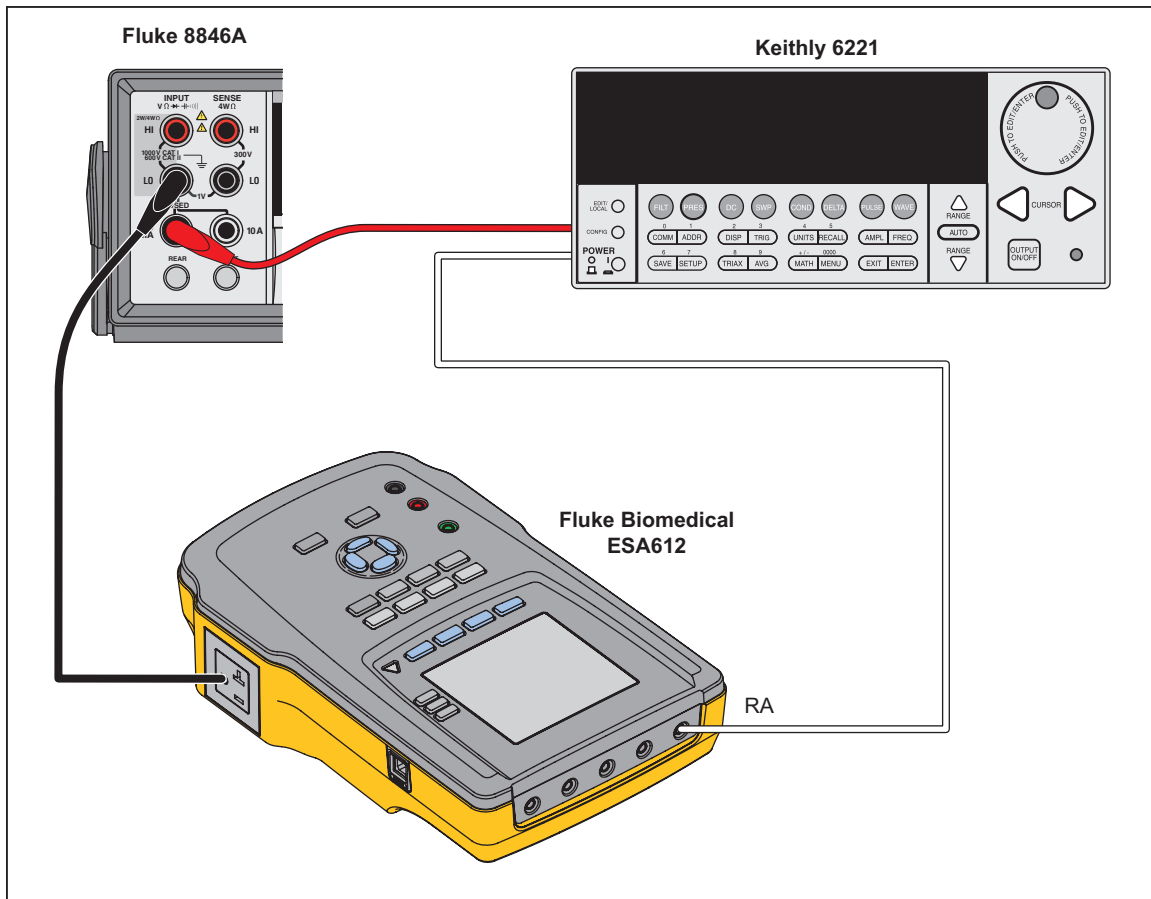

Figure 3-24. Direct Equipment Leakage, Patient Leakage: Ground to RA
1. Move the lead from the RL applied part to the EO ground, the other end should still be connected to the current source. The RA applied part lead should still be connected to the DMM Input (-). See Figure 3-24.